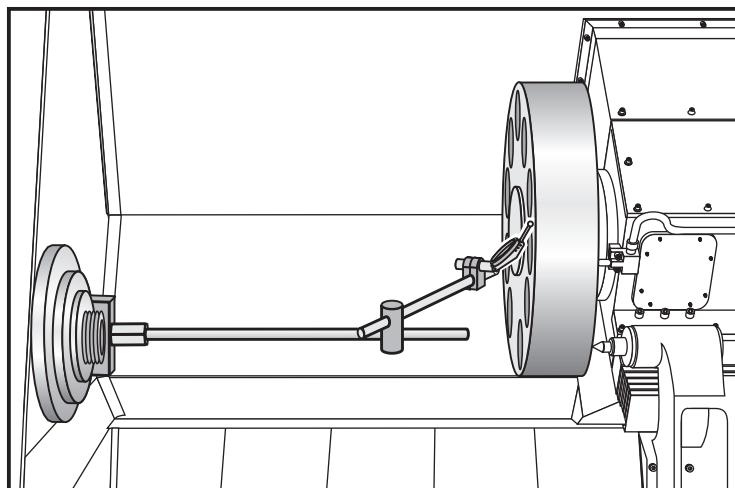

Fig. 1.4-2 Dial indicator in position to check Z-axis
1. Place a dial indicator and base on the spindle retaining ring with the indicator tip positioned on the face of the turret as shown in Fig. 1.4-2.